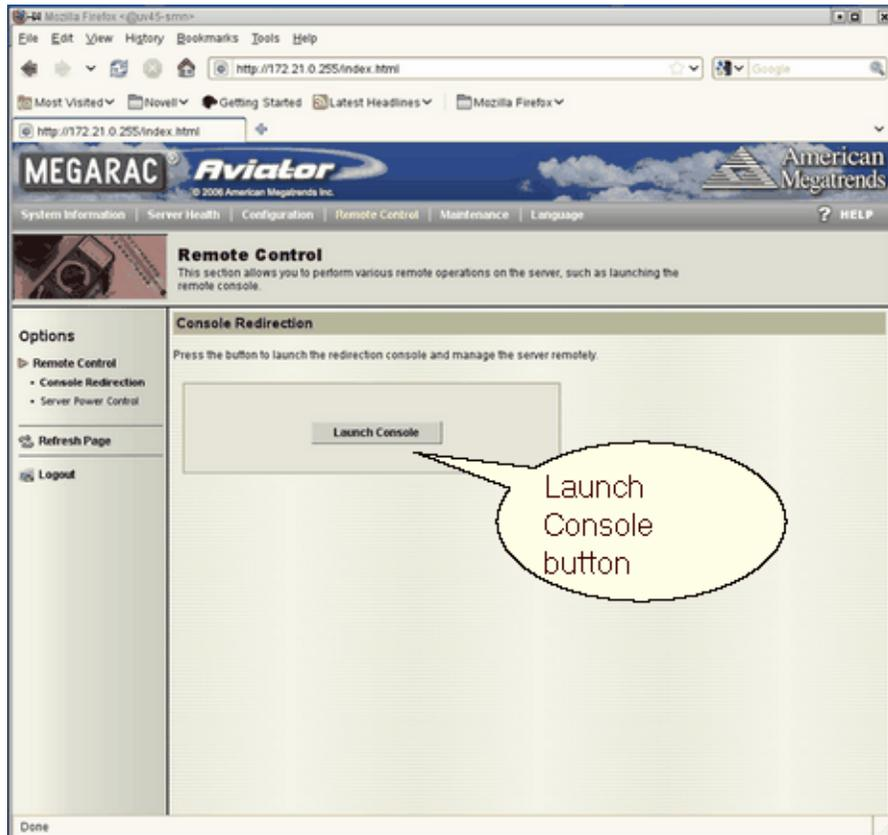

Figure 3-4 BMC Remote Control Console Redirection Screen
7. The **Console Redirection** screen appears, as shown in Figure 3-4 on page 37. Click on the **Launch Console** button.